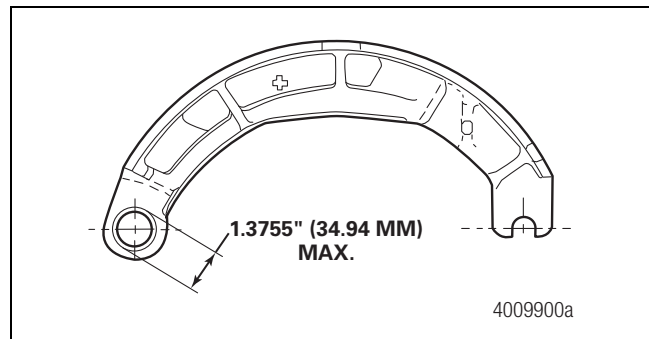
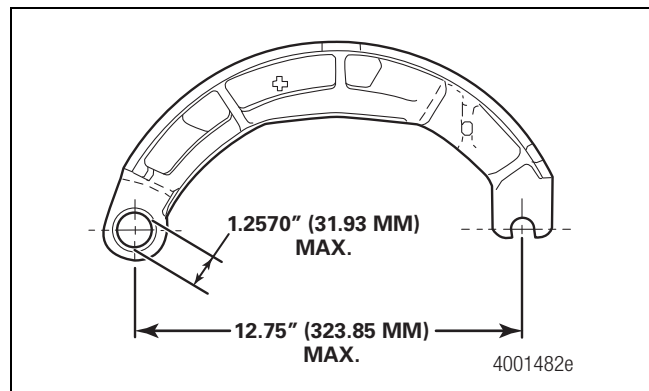

Figure 4.8
Figure 4.9
7. The anchor pin hole without the bushing installed must not exceed 1.3755-inches (34.94 mm). Figure 4.8. The anchor pin hole with the bushing installed must not exceed 1.2570-inches (31.93 mm) in diameter. Figure 4.9. Replace any brake shoes that do not meet measurement specifications.
8. With the roller and anchor pin installed, measure the distance from the center of the anchor pin hole to the center of the roller slot. Figure 4.9. The distance must not exceed 12.75-inches (323.85 mm). Replace any brake shoes that do not meet measurement specifications.